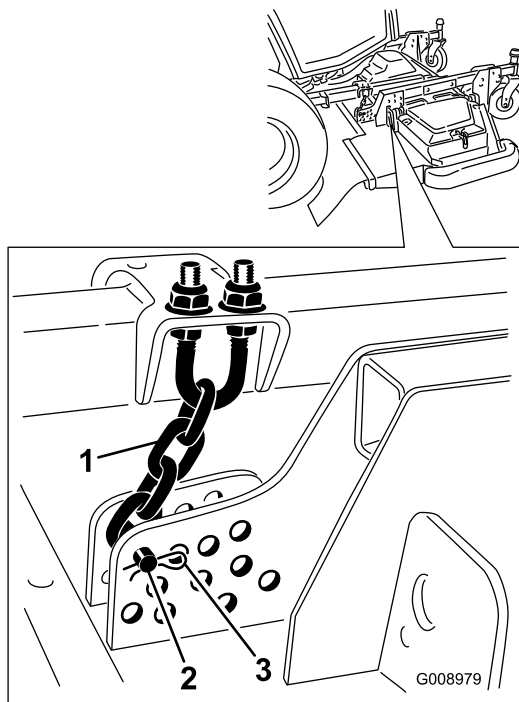

Figure 92
3. Remove the hairpin cotter and clevis pin securing the height-of-cut chains to the rear of the cutting unit (Figure 92).